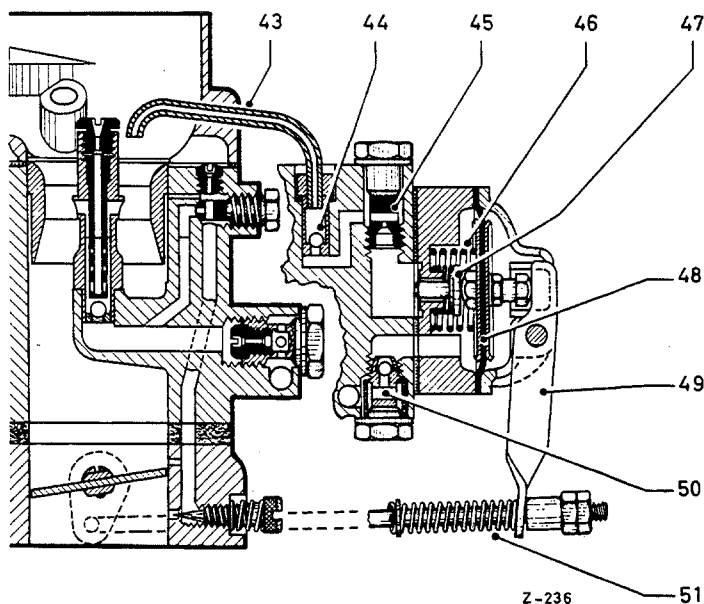

Fig. M 31 S/017
An additional ball valve (polyamide ball) has been incorporated in the mixing tube holder of Stage 1. This ball valve (43) is designed to prevent the engine from stalling even when the brakes are applied suddenly (see Fig. M 31 S/016). When the vehicle is in motion, the polyamide ball is raised from its seat by the fuel emerging. If the accelerator is released, the throttle of Stage 1 closes and the polyamide ball falls back onto its seat because there is no longer any depression at the mixing tube holder. The polyamide ball now prevents air from penetrating into the idle system when the brakes are suddenly applied. This therefore prevents the engine from stalling, as it otherwise would because the fuel flows back into the float chamber at the front by virtue of the inertia.
The accelerating pump used is a so-called "neutral" pump, i. e., the engine can draw in fuel via the injection tube according to the degree of depression prevailing in the intake manifold. The accelerating pump (Fig. M 31 S/017) is a mechanically-operated diaphragm pump which is connected to the throttle of Stage 1 by means of an adjustable lever-linkage. When the accelerator is depressed, the diaphragm pump sprays extra fuel into the mixing chamber of Stage 1. By virtue of this additional injection, a smooth speed build-up and good acceleration is achieved. When the accelerator is depressed, the pump arm (49) is moved by means of the connecting rod (51). The pump arm in turn presses on the diaphragm (48) and in consequence, the fuel which is in front of the diaphragm is injected via the plate valve (47), the pump jet (45), the ball valve (44) and the injection tube (43) into the mixing chamber of Stage 1. The aperture of the injection tube takes the form of a precision bore of 0.8 mm ϕ .